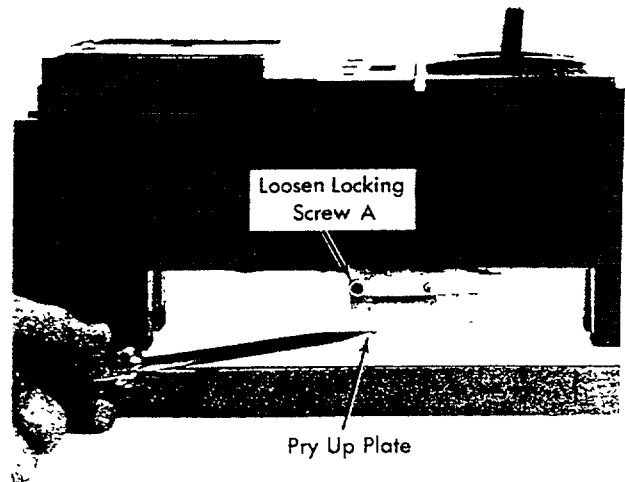

Figure 5
1. Loosen locking screw (A), Figure 5.
2. Pry up with screwdriver blade inserted under switch mounting Plate, Figure 5, until switch actuator button is completely clear of plug-in base plate.